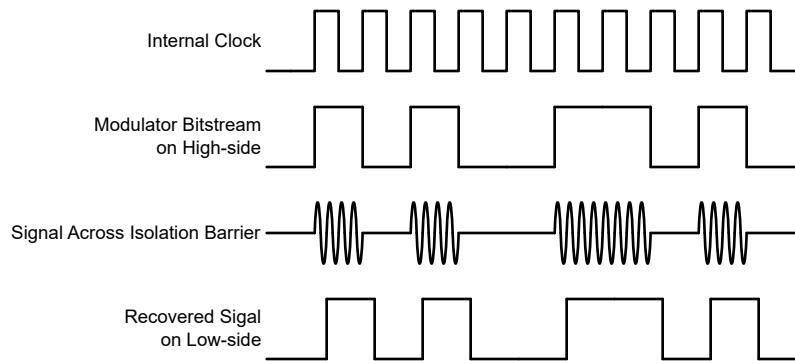

Figure 7-1. OOK-Based Modulation Scheme
As shown in Figure 7-1, the AMC0381R uses an on-off keying (OOK) modulation scheme to transmit the modulator output bitstream across the SiO_2 -based isolation barrier. The transmit driver (TX) is illustrated in the Functional Block Diagram. TX transmits an internally generated, high-frequency carrier across the isolation barrier to represent a digital one. However, TX does not send a signal to represent a digital zero. The nominal frequency of the carrier used inside the AMC0381R is 480MHz.